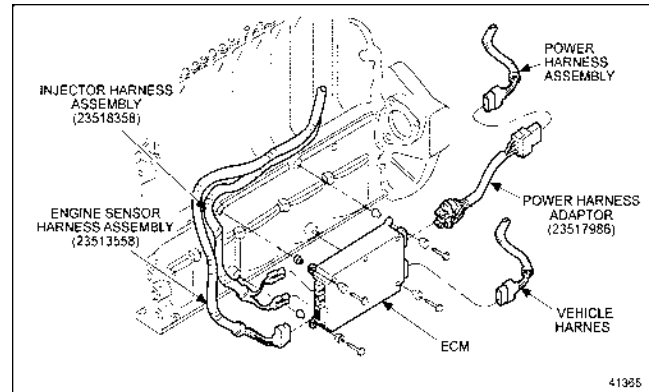

Figure 1 DDEC IV ECM and Wiring Harness Locations
- Install the Engine Sensor Harness (P/N: 23513558), included in the kit. See Figure 1. Refer to Section 8.6 of Service Manual.